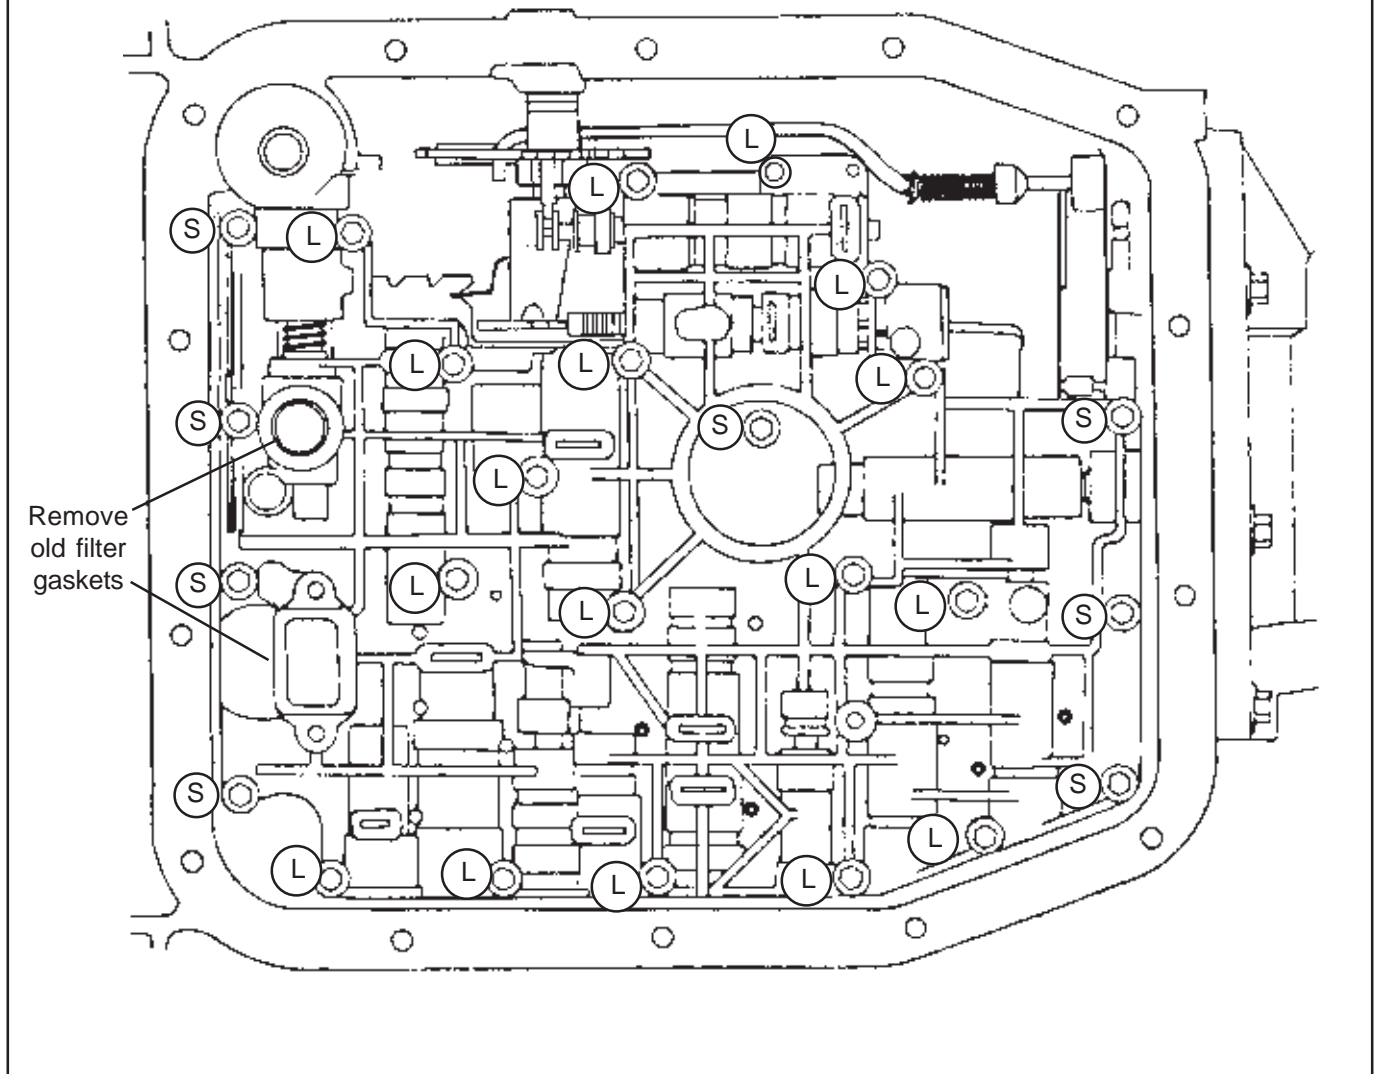
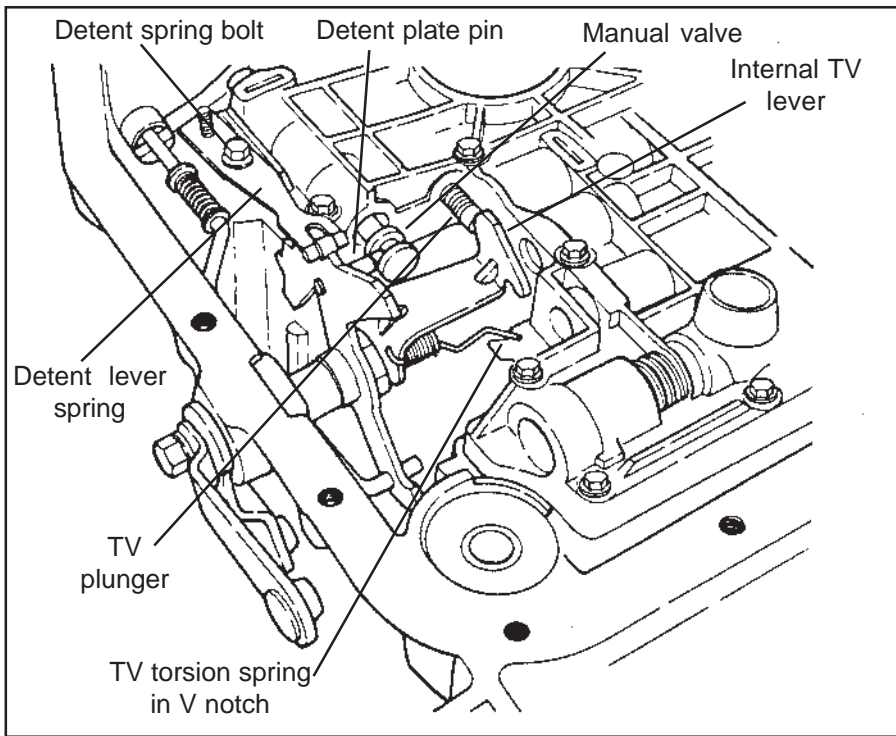

Figure 1
Figure 7
STEP 2. Remove three (3) screws holding the oil filter then pull the filter straight down from the valve body. Remove the filter grommet and gasket material from valve body. (See Figs. 1 & 2.)
STEP 3. Remove all of the valve body bolts **except** one near the center (See Fig. 1). Hold valve body up against case and remove the last bolt. When removing valve body watch out for about a pint of oil trapped
STEP 20. Install valve body up to case being careful to align manual valve with pin in detent plate (See Fig. 7). You also have to manually engage the TV lever between the valve body and TV plunger. **DO NOT** try to force the valve body into place, it will go right into place with a little patience. With the valve body **sitting flush** against the case install (1) bolt to hold the valve body in place. Make sure the detent plate pin and internal TV lever are properly positioned then install (8) short M6x30mm (1.16") and (16) M6x40mm (1.56") shoulder bolts (See Fig. 1). Remove the alignment pins only after all but the last two bolts have been installed. Install **ALL** bolts **FINGER TIGHT**. The short bolts are installed (4) in front (1) in center and (3) in rear of valve body. One of the shoulder bolts holds the detent lever spring. Starting at the center and working outward torque bolts to **80-100 lb.in. (9-11 Nm)**. If you do not have a low range torque wrench, run the bolts down until they stop (wrist tight) then turn bolt an additional one eighth (1/8) turn.
notch(See Fig. 7). The TV torsion spring pushes the TV lever against the TV plunger. **Failure to position this spring properly will result in erratic shifting.**